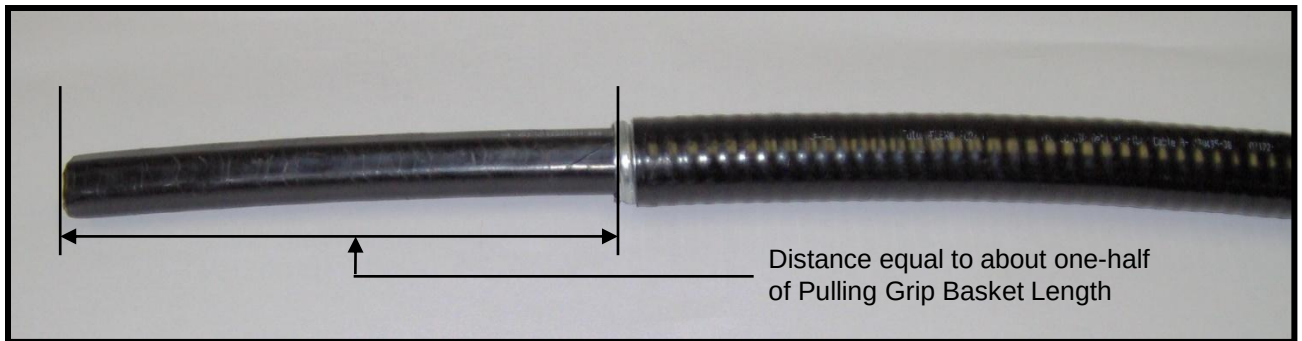

Figure 8
6.5 Unravel the Interlock Galvanized Steel wrap back to where the outer jacket was removed. Bend the steel wrap back and forth until it breaks and remove it from around the core cable. These steps expose a length of core cable beyond the armor. **See Fig. 8.**